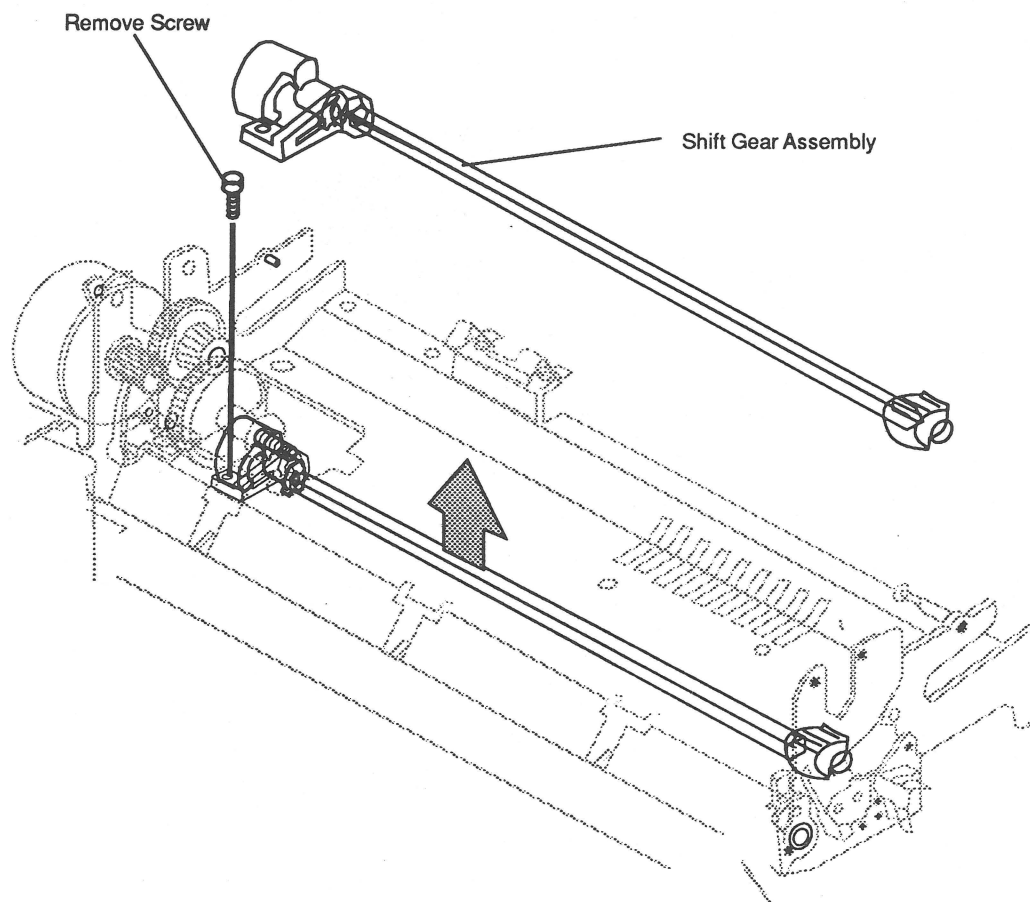

Figure 2-23 Shift Gear Assembly
5. Remove the one screw shown in **Figure 2-23** and lift the shift gear assembly from the frame.